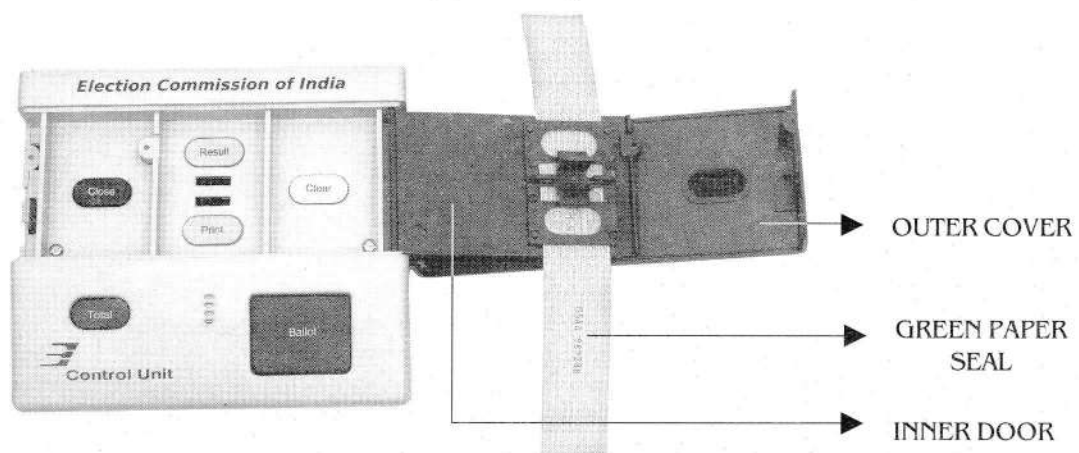

FIG. 21 Fixing of green paper seal
- (i) This seal has been printed specially by the Election Commission of India on security paper serially numbered, as in the case of currency notes at the India Security Press, Nasik. One paper seal has to be fixed in the two frames provided for the purpose on the inner side of the door of the inner compartment. In order that the seal is firmly fixed in the frame and does not shift from its position, a thin cardboard padding may be provided. The seal should be so fixed that its green surface shows through the aperture from the outer side. After fixing the seals, the door of the inner compartment should be closed in such a manner that the two open ends of the paper seal project outwards from the sides of the inner compartment as shown in Fig. 21. On the white surface of the paper seal so projecting outwards, the Presiding Officer should affix his signature in full immediately below the serial number of the seal. It shall also be got signed by such of the candidates / polling agents as are present and desire to put their signatures. Note down the serial numbers of the paper seal used and also allow the candidates / polling agents present to note down those numbers.